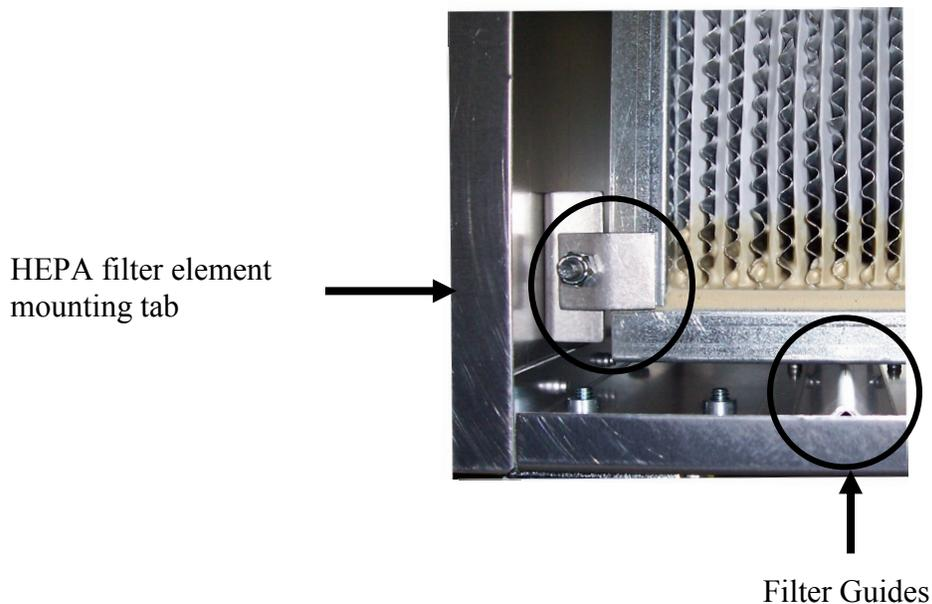

Figure 1
**Unpacking:** Visually inspect the unit for damage. Remove the top grill and the exhaust filter and ensure that the HEPA filter has not been dislodged during shipping. The HEPA filter should be sitting on the filter guides and the filter tabs that hold the HEPA filter in place should be tight. See Figure 1.